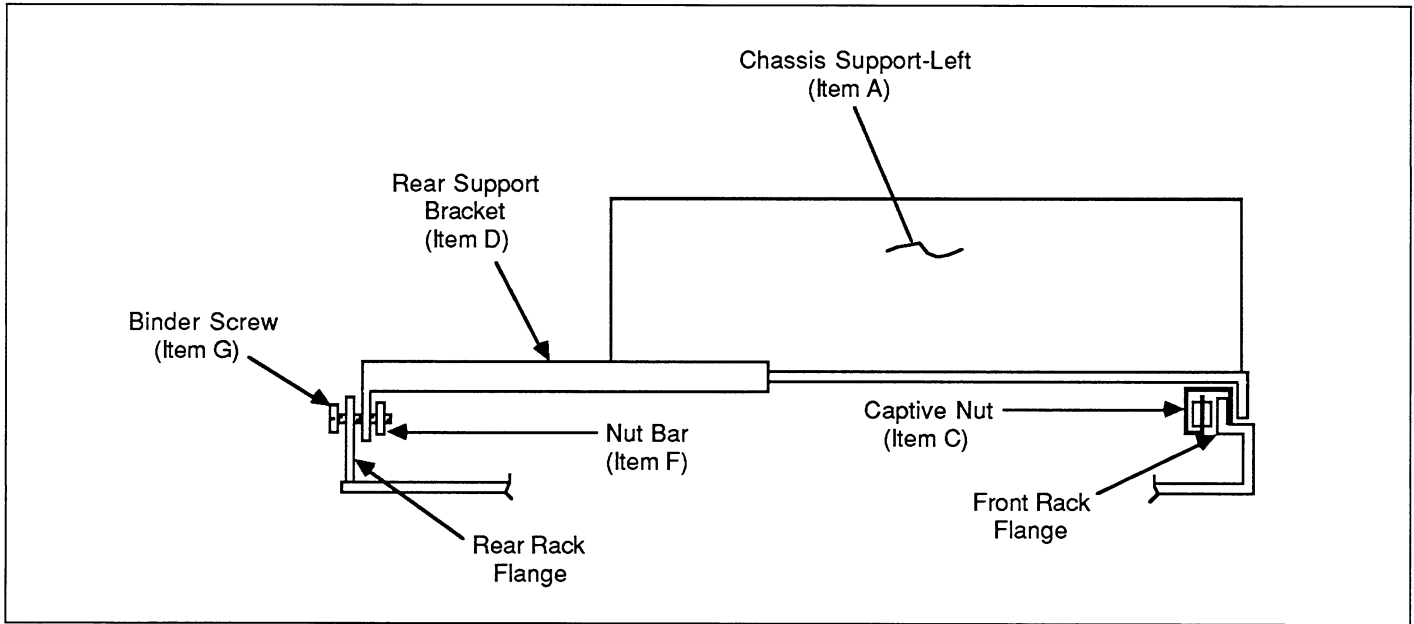

Figure 6-4. Chassis Support Sizing
4. Place a rear support bracket (item D) on the left chassis support (item A) and temporarily install the two pieces in the rack by sliding them apart until their flanged ends fit as shown in Figure 6-4. Note which holes will be used to attach the two pieces together.